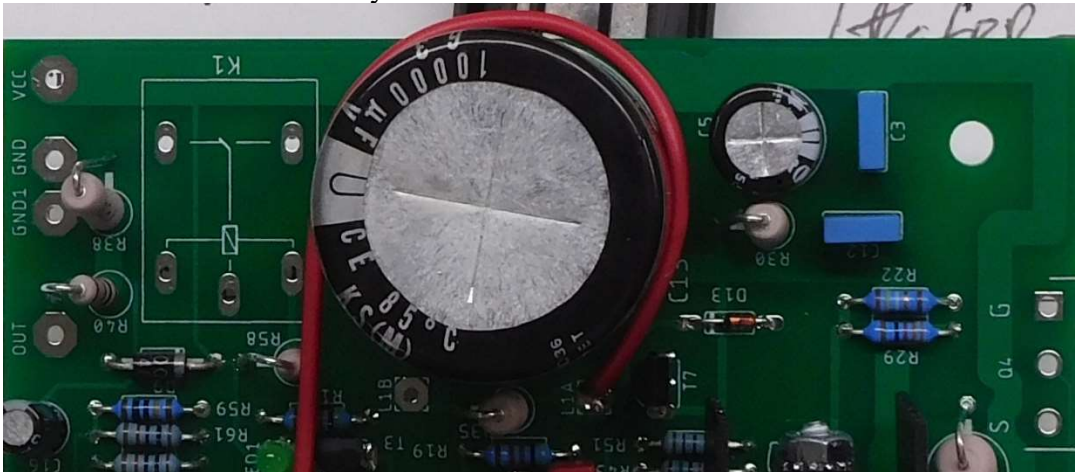

Figure 15-Starting to wind the output inductor
3. From the component side, place one stripped end of the wire into the L1A terminal. Bend it on the solder side to retain it, but don't solder it yet. Route it around the output capacitor as shown in Figure 15.